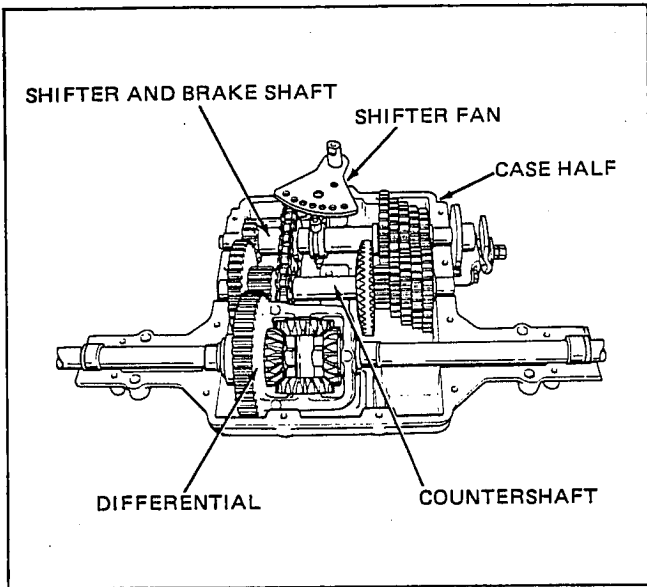

Figure 3-21
4. Remove gear and shaft assemblies from case half of the transmission by lifting the two shafts out of the bearing supports taking care not to disturb drive chain relationship with sprockets. (See Figure 3-21)